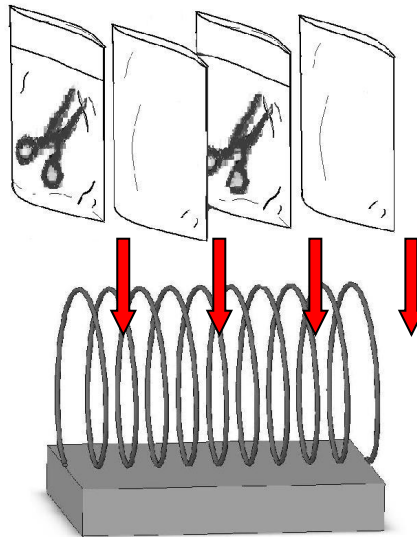
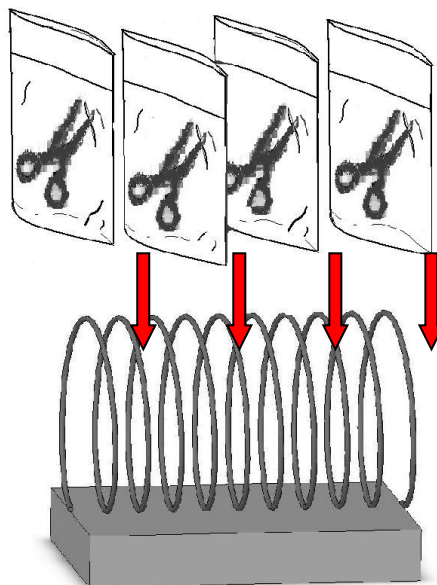

Figure 22
Figure 23
**Warning:** We suggest using Spring Holder for items with sterilizing pouches to assure sterilization result. Follow Figure 22 or Figure 23 to place each pouch separately. Spring holder is available as an optional accessory.